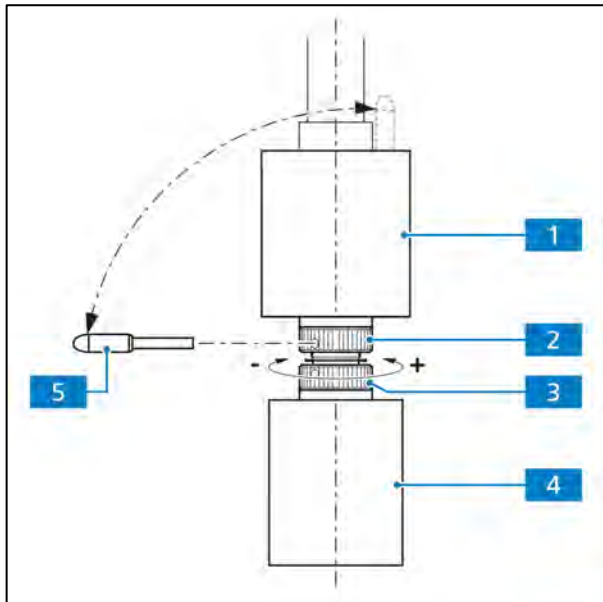

Fig. 3-15 Adjusting the frictional momentum
The drive length of the X- and Y-drive can be adjusted by an axial shift of the coaxial knurled knob (Fig. 3-15/4 and 1) within a range of approx. 15 mm.
- Slide the coaxial knurled knob for the X-adjustment (Fig. 3-15/4) all the way down.
- Take the enclosed adjustment pin (Fig. 3-15/5) out of the coaxial knurled knob for the Y-adjustment (Fig. 3-15/1) and stick it into one of the holes on the lower hole nut (Fig. 3-15/3).
- Hold the coaxial knurled knob for the X-adjustment (Fig. 3-15/4) and turn the hole nut with the adjustment pin clockwise (lower frictional torque: **-**) or counterclockwise (higher frictional torque: **+**) until you reach the desired level of friction (see Fig. 3-15).
- Slide the coaxial knurled knob for the Y-adjustment (Fig. 3-15/1) all the way up.
- Stick the enclosed adjustment pin (Fig. 3-15/5) into the hole on the upper hole nut (Fig. 3-15/2).
- Hold the coaxial knurled knob for the Y-adjustment (Fig. 3-15/1) and turn the hole nut with the adjustment pin clockwise (lower frictional torque: **-**) or counterclockwise (higher frictional torque: **+**) until you reach the desired level of friction.
- Replace the adjustment pin in the coaxial knurled knob for the Y-adjustment (Fig. 3-15/1).